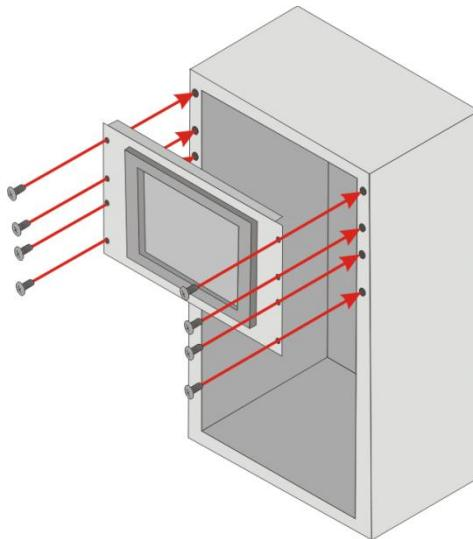

Figure 3-26: Install into a Rack/Cabinet
Step 6: Slide the PPC2-Cxxx-EHL series with the attached rack/cabinet bracket into a rack or cabinet (**Figure 3-26**).
Step 7: Once the flat panel PC with the attached rack/cabinet bracket has been properly inserted into the rack or cabinet, secure the front of the rack/cabinet bracket to the front of the rack or cabinet (**Figure 3-26**).